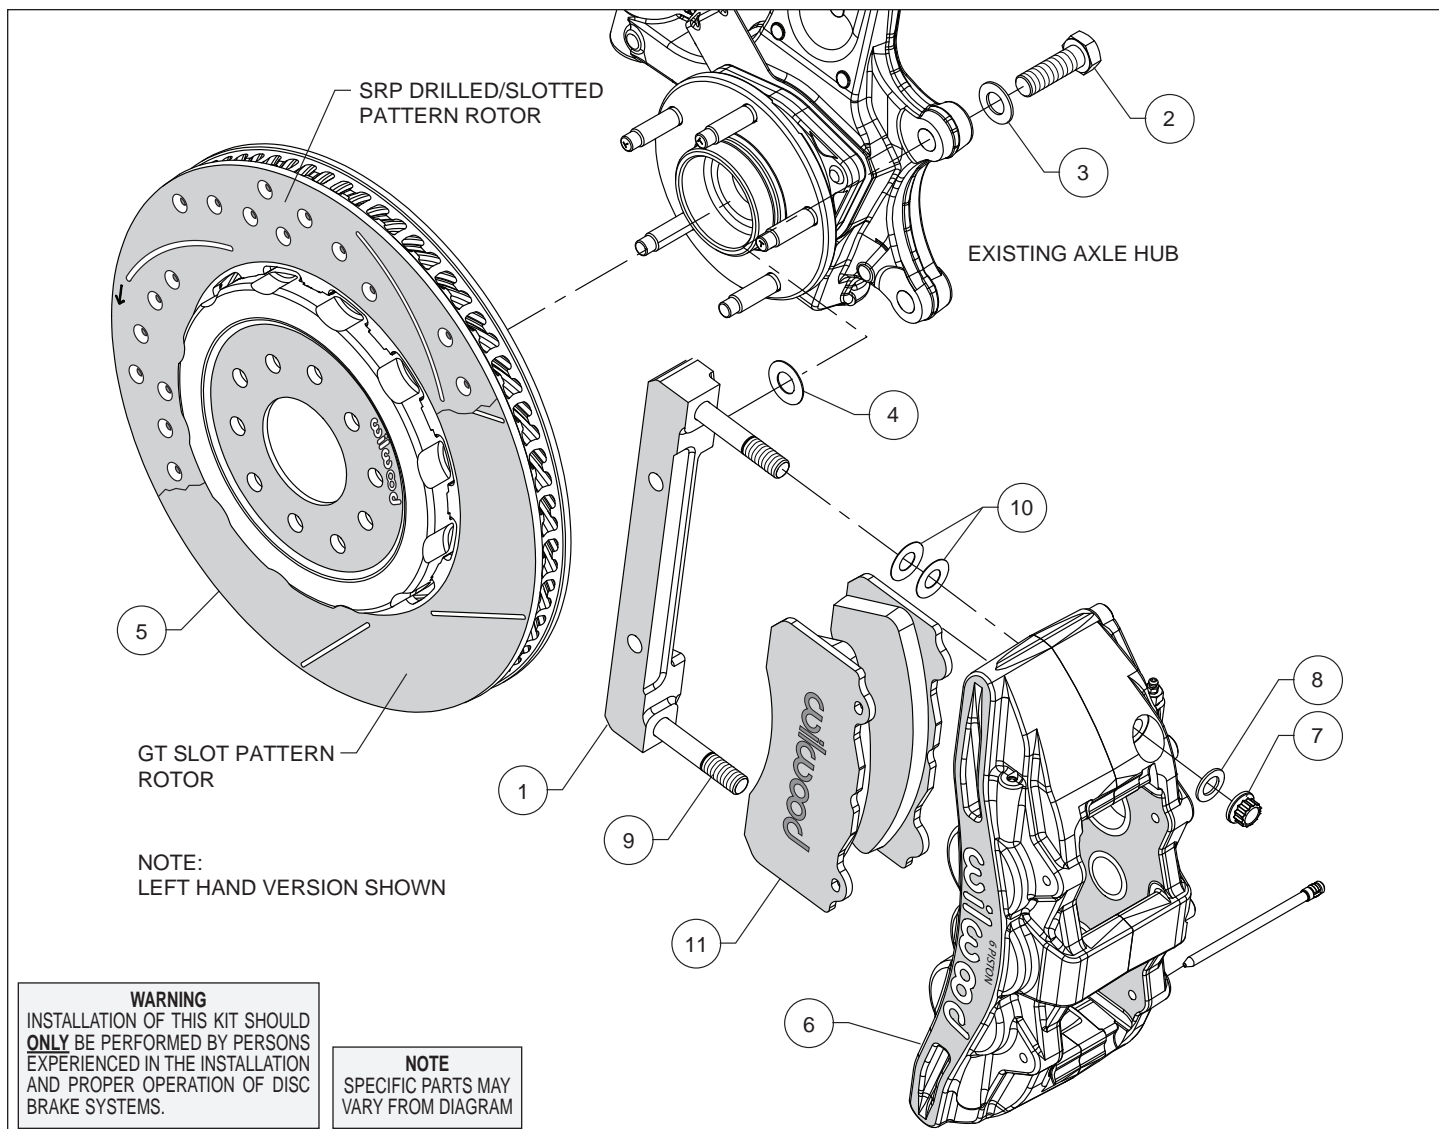

Figure 1. Typical Installation Configuration
**Assembly Instructions** (numbers in parenthesis refer to the parts list and Figure 1 on the preceding pages):
- The caliper mount bracket (1) should initially be installed with clean, dry threads on the mounting bolts. Orient the bracket, as shown in Figure 1 and Photo 1, and install using bolts (2) and washers (3). Initially place one .029" thick shim (4) on each bolt between the bracket and upright, Figure 1. Temporarily tighten the mounting bolts. **NOTE:** *The bracket must fit squarely against the mount bosses on the upright.* Inspect for interference from casting irregularities, machining ridges, burrs, etc. Later, after the caliper alignment has been checked, the mount bolts will be secured using red *Loctite*® 271.
- NOTE:** *This kit contains distinct right and left hand calipers that must be mounted in a specific direction, as described below.* Lubricate the caliper mounting studs (9) with lightweight oil. Initially place two .015" thick shims (10) on each stud between the caliper and the bracket, as shown in Figure 1 and Photo 3. Mount the caliper (6) onto the bracket (1) using lock nuts (7) and washers (8), Figure 1. Temporarily tighten the lock nuts. Ensure that the caliper is mounted so the largest pistons are at the rotor exit end of the caliper, in relation to the direction of the rotor. View the rotor through the top opening of the caliper. The rotor should be centered in the caliper, Photo 4. If not, adjust by adding or subtracting shims (4) between the bracket and the upright. Always use the same amount of shims on each of the two mounting bolts. Once the caliper alignment is correct, remove the bracket mounting bolts (2) one at a time, apply red *Loctite*® 271 to the threads, and torque to 77 ft-lbs.
- Remove the two pad retaining pins from the caliper (6) by pushing out the pins from the tapered end using a blunt instrument. Insert the brake pads (11) into the caliper from the bottom, Figure 1 and Photo 5. With the friction material facing the rotor, secure the brake pads in place with the pad retaining pins, Photo 6. Reinstall the caliper onto the caliper mounting bracket and temporarily tighten the lock nuts. Check that the top of the brake pad is flush with the outside diameter of the rotor, Photo 7. If not, adjust by adding or subtracting shims (10) between the caliper and the bracket. After the caliper pad height is set, torque the caliper lock nuts (7) to 65 ft-lb.